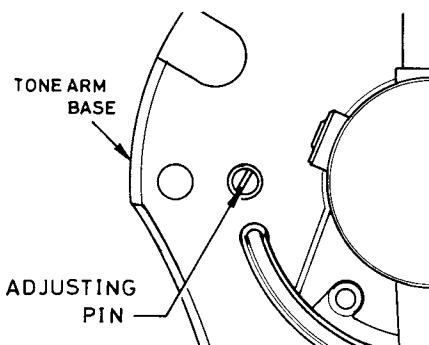

Fig. 3
a) Adjust by gradually turning the screw (see Fig. 3) so that the tonearm returns to the arm rest when the stylus tip reaches the zone designated on the record RG-667 (between 56 and 65mm from the center shaft). The tonearm should be placed on the arm rest when turning the screw.
a) Régler en tournant la vis progressivement (voir fig. 3) de façon à ce que le bras de lecture revienne sur le repose-bras lorsque l'extrémité de la pointe de satisfaits.